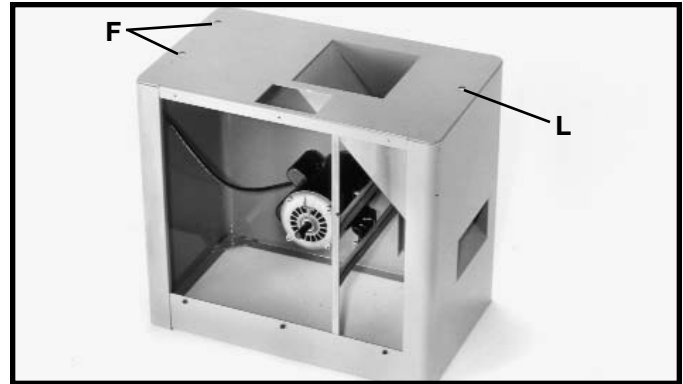
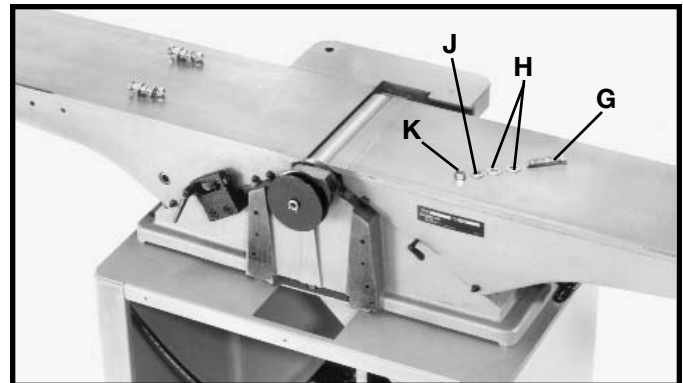

Fig. 6
Fig. 7
3. Line up three holes (F) and (L) Fig. 6, on top of stand with three holes located at the bottom of the jointer base. Place a 3/8" flat washer (H) Fig. 7, on a 3/8-16x2" hex head screw (G), insert the screw through the hole in the base of the Jointer and hole (F) Fig. 6, in the stand. Place a 3/8" flat washer (H) Fig. 7, 3/8" lockwasher (J), and thread a 3/8-16 hex nut (K) onto the screw and tighten securely. Repeat this process for the remaining hole (F) in the stand and Jointer base. Repeat this process for hole (L) in the stand and Jointer base by inserting the screw up through hole (L) in the stand and the Jointer base.